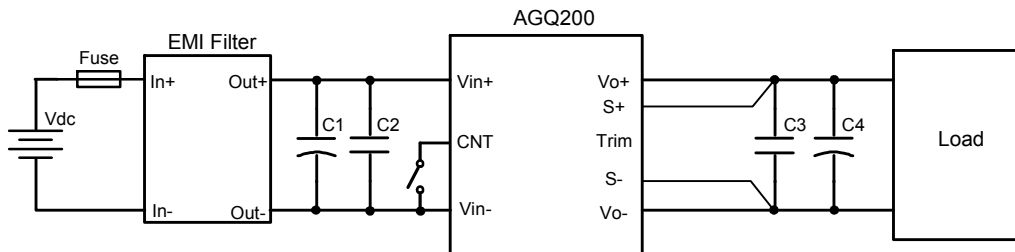

Figure 11 Typical application
Figure 5 Dynamic response for 25% load step (25% ~ 50% ~ 25%) and 0.1A/ μ s slew rate, (1ms/div), see Figure 11 for test configuration; CH1-output voltage (50mV/div); CH2-output current (10A/div)
Figure 6 Dynamic response for 25% load step (50% ~ 75% ~ 50%) and 1A/ μ s slew rate, (1ms/div), see Figure 11 for test configuration; CH1-output voltage (200mV/div); CH2-output current (10A/div)
- C1 ~ C4: See Figure 11